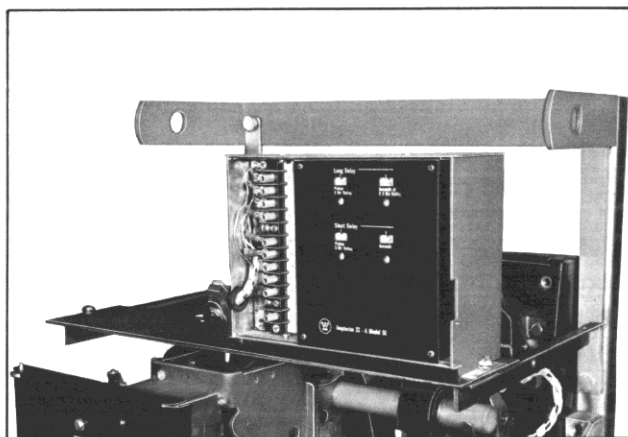

Fig. 22 *Amptector Mounted on Cross Plate DB-50*
2. Mount the cross plate with the two .203 holes next to the breaker arc chutes on the left hand arm using the .25-20 tapped hole, and .25-20 x .5 bolt and washers. Now mount the right hand side of the amptector to the cross plate and right hand arm with .25-20 x .5 bolt and washers, then secure left hand side of amptector to the cross plate with another .25-20 x .5 bolt and washers, Fig. 22.